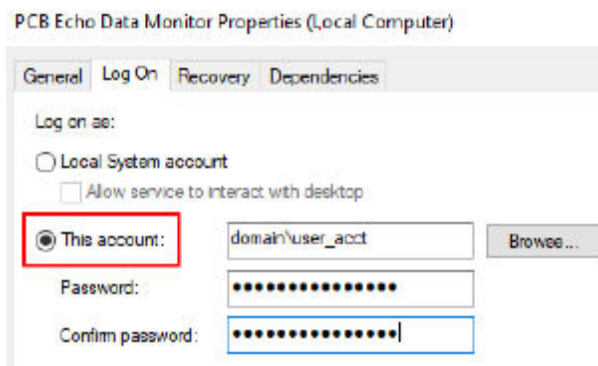

Figure 4 – Service Logon Screen
- **NOTE:** If data fails to get added to the database due to database 'login' errors (check the error log) it may be necessary to create or use an existing account for the service logon account as the Local System Account for services may not have the appropriate credentials (Figure 4).
- Right click the PCB icon (PCB Echo Service utility) in the notification tray (typically on the bottom right of the screen) as shown in Figure 4. This will show an option to 'Open Echo Status'. Selecting this opens the window shown in Figure 6. Clicking the **Get Status** button will update the status to show the Echo[®] receivers the service is connected to and the last transmission each has received.